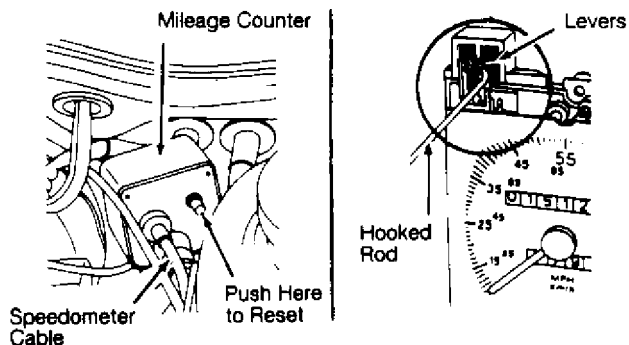

Fig. 1: Resetting Mileage Counters
1) On some Rabbit and Pickup models, remove instrument panel cover plate. Reach into opening at top left corner of speedometer and pull release arm to reset counter. See Fig. 1. Left arm resets EGR counter, right arm resets oxygen sensor.
3) On all other models, locate mileage counter (in-line with speedometer cable) and push white reset button. See Fig. 1. Ensure light is out.